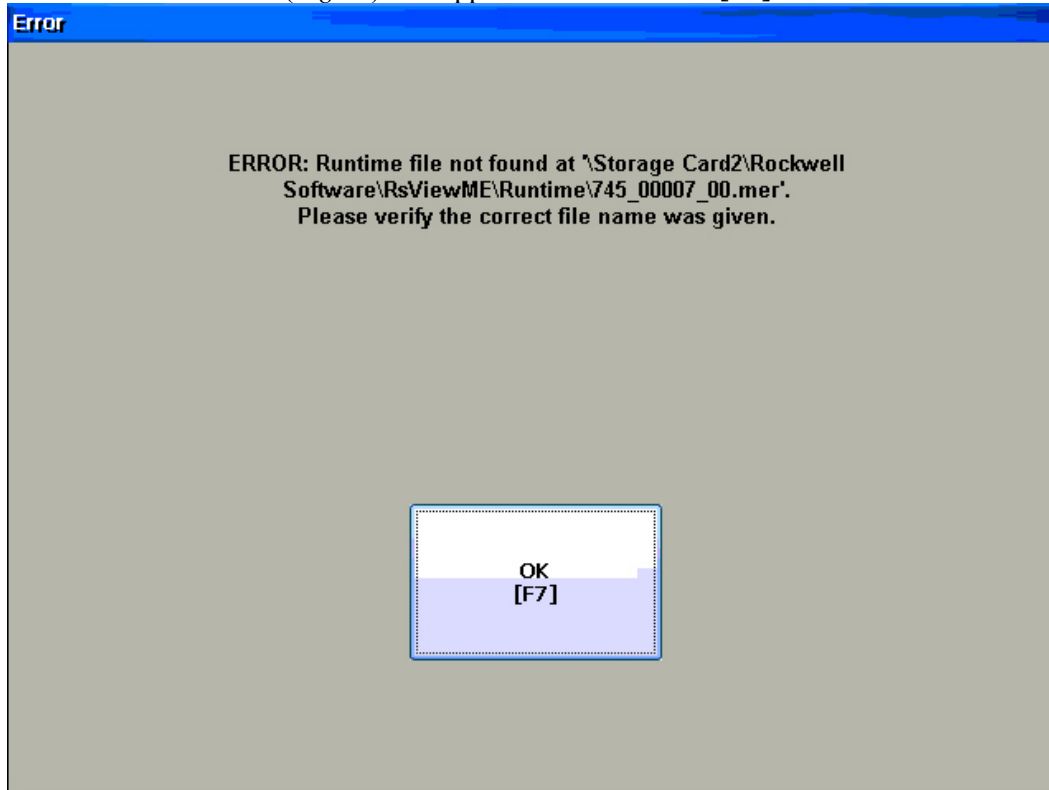

Fig 10
4. If you are upgrading a VersaView that has been configured to work with 10 Pump – 80 Station control an Error screen (*Fig 10*) will appear. Press the “**OK [F7]**” button to close the screen.
23. If an Error Screen (*Fig 10*) appears, Press the “**OK [F7]**” button to close the screen.
3. An Error Screen (Fig 10) will appear stating that the Runtime file was not found.